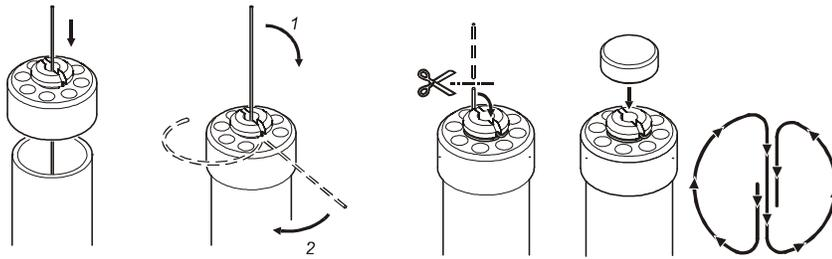

Figure 6: Fastening String on the Plastic Cover
7. Attach the cap on the plastic cover (shown in the Figure 6 above), and push until it clicks.